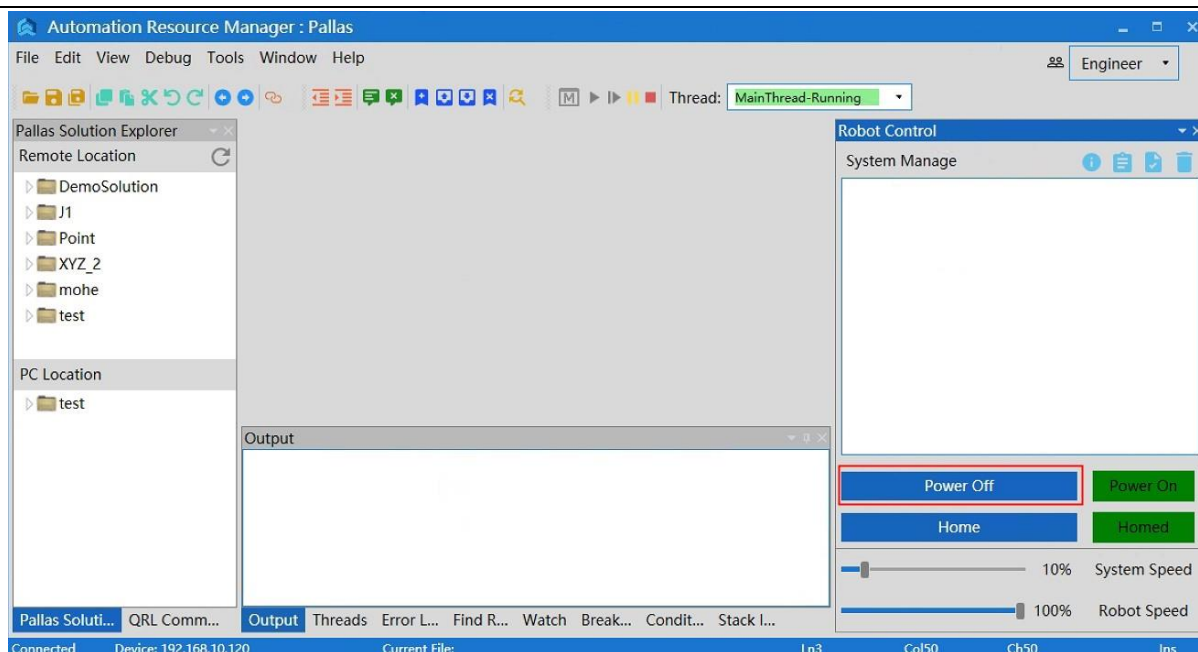

Figure 6-51 Teach interface in power-on state
Step 2 Click the <Power Off> at the bottom right of the ARM debugging interface, as shown in Figure 6-51.